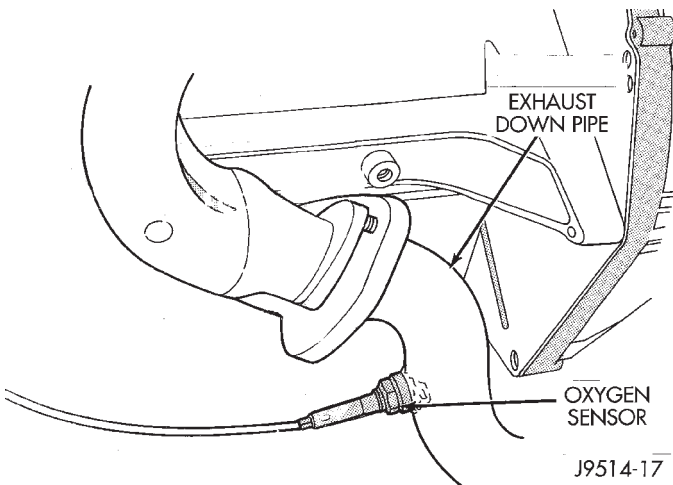
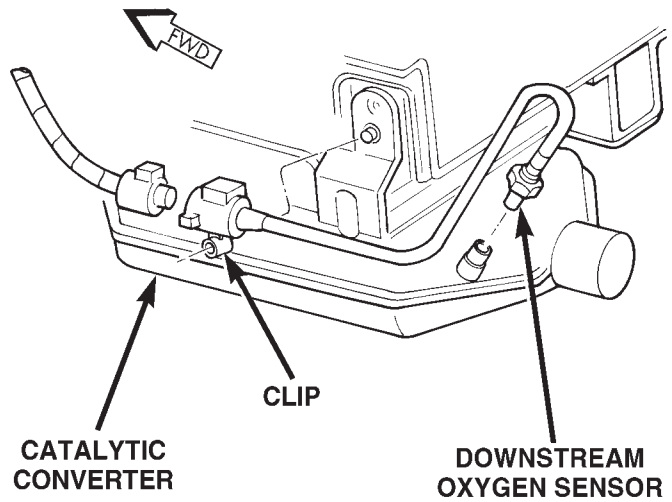

Fig. 42 Upstream Oxygen Sensor—4.0L Engine
Fig. 43 Downstream Oxygen Sensor—4.0L Engine
(20) Raise and support the vehicle.
(21) Verify that both of the oxygen sensor wire connectors are firmly connected to the sensors. Inspect sensors and connectors for damage (Fig. 42) or (Fig. 43).